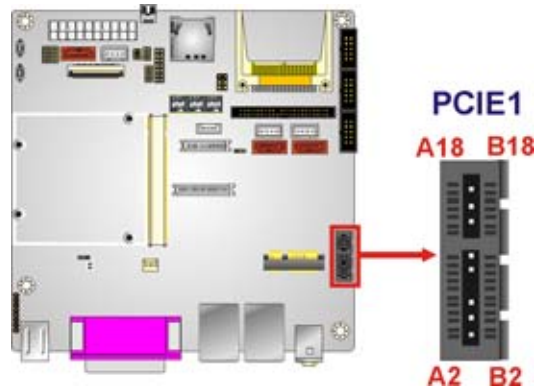

Figure 4-12: PCIe x1 Connector Location
- CN Location:** See Figure 4-12